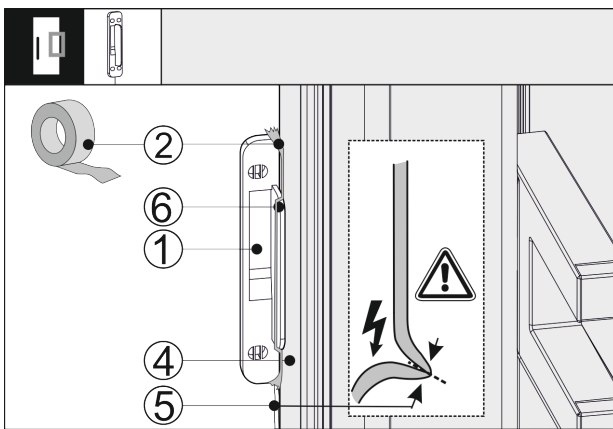

Fig. 42
- Place the knocking sensor Fig. 42 (1) on the side on the appliance door Fig. 42 (4) so that the limit stop Fig. 42 (6) is touching the appliance door Fig. 42 (4). The sensor cable Fig. 42 (5) is tensioned slightly and is also touching the appliance door Fig. 42 (4).
- Attach the knocking sensor Fig. 42 (1) with adhesive tape Fig. 42 (2). The knocking sensor is screwed to the unit front at a later point.